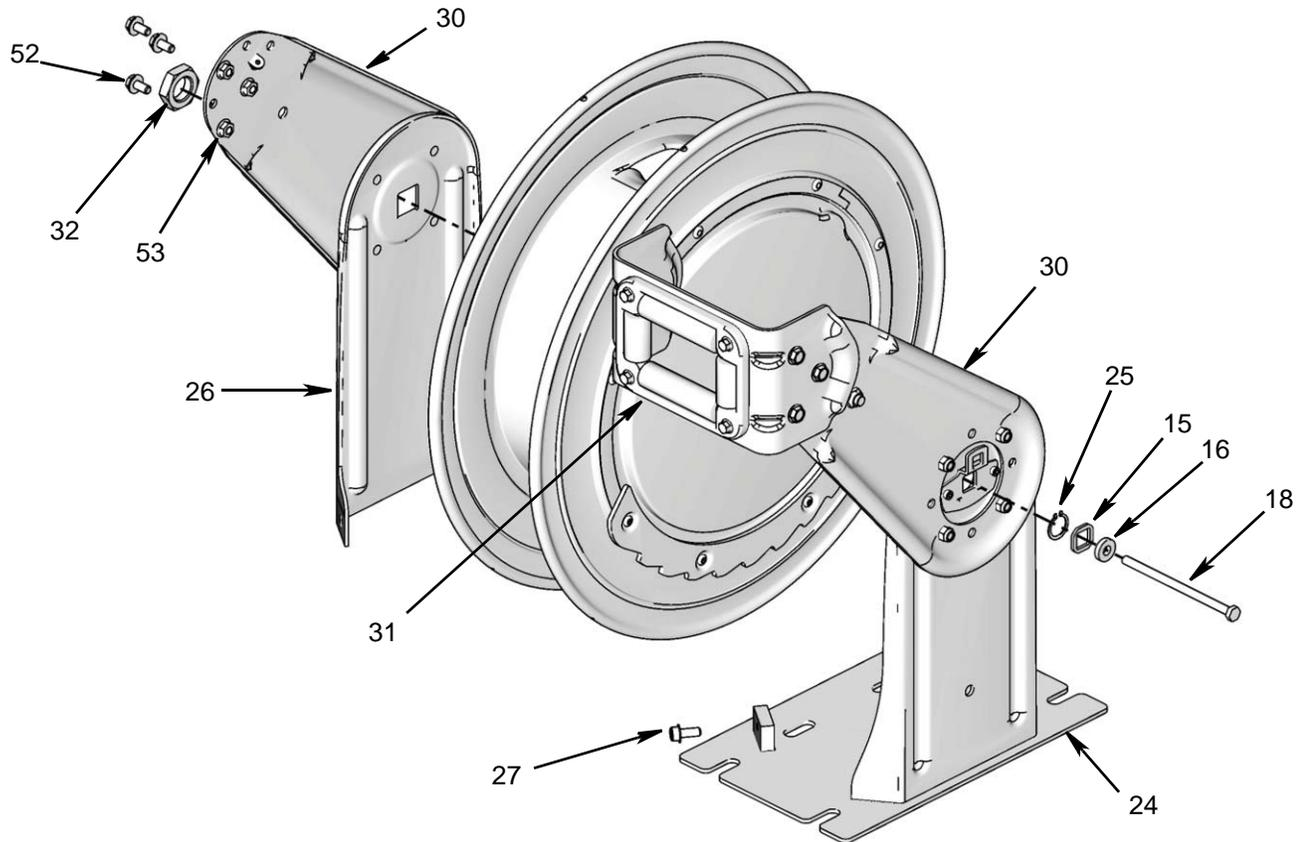

FIG. 5
Unless otherwise noted, steps 8 - 13 refer to FIG. 5.
Unless otherwise noted, steps 5 - 12 refer to FIG. 5, page 4.
9. Tighten bolt (18).
10. Align pedestal assembly (26) to base (24). Install 2 screws (27). Tighten and torque screws to 20-30 ft. lbs (89 - 133 N.m).
11. Align guide arm (30) and hose guide (31). Install and tighten screws (52) and nuts (53).
12. Install large nut (32) (FIG. 5, page 4). Tighten and torque nut to 85-105 ft. lbs (378 - 467 N.m).